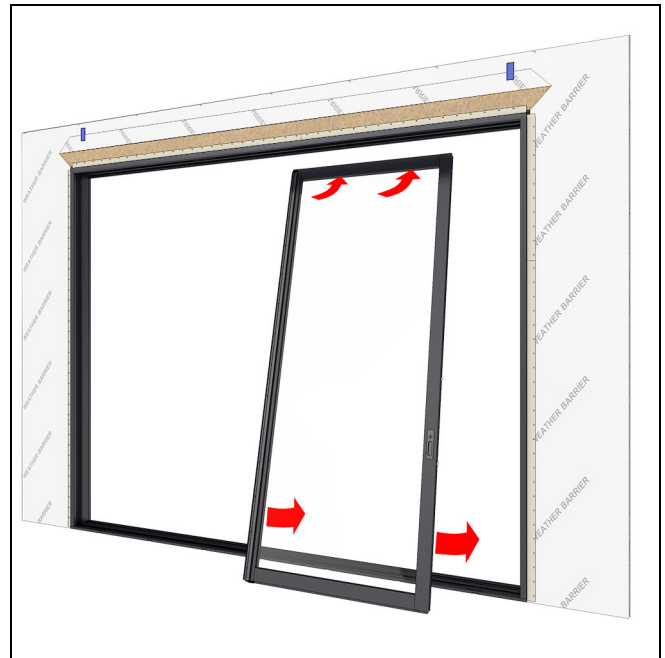

Figure 114
4. Install operator panel (A) onto the interior track. Lift the top of the panel into the interior most head jamb track. Then swing the bottom over the sill track until centered over the roller guide. Set the panel gently onto the guide. See Figure 114.